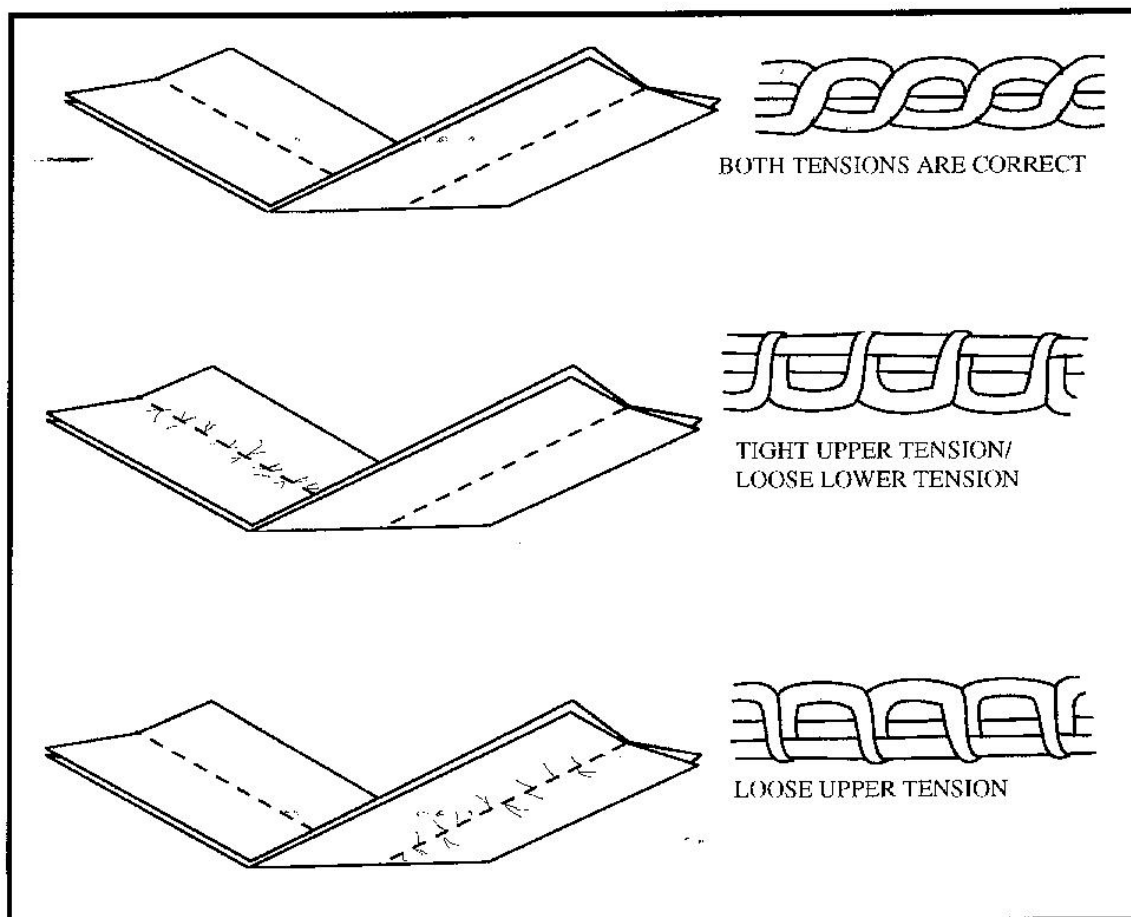

Figure 3-6. Thread tension
e. Tension. Tension is the amount of stress put on a thread. When the tension between the top thread and the bottom thread is correct and balanced, the connecting link of each lockstitch is in the center (Figure 3-6). The stitches look the same on both sides. When there is too much tension on the top thread or too little on the bottom thread, the link is on the bottom. When there is too much tension on both threads, the fabric puckers and the stitches break. When there is too little tension on both threads, the stitches have too much play, the threads form loops, and the seam is weak.